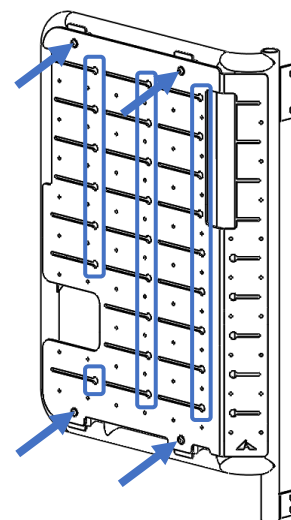

Figure 3: Tray Installation Locations with BackPACK
6. Slide two (2) 3/8" carriage bolts into each bike tray slot.
7. Install the bike rack trays onto the BackPACK using the carriage bolts through the indicated holes on the bike rack or BackPACK (see Figure 3). **NOTE:** The 3/8" bolt can only fit into the large hole at the end of each slot – please use the indicated locations only.
10. With the lower support arm of the bike tray extended to approximately parallel with the ground (as shown in Figure 3), slide the upper support bracket (on the back of the bike tray) up until taugt. Tighten the 3/8" hardware to secure upper support bracket in place.